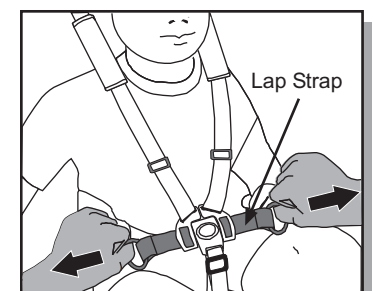

Fig. 22 Tighten Lap Straps.
- Tighten lap straps. Adjust lap straps to fit snug and be comfortable (Fig. 22).